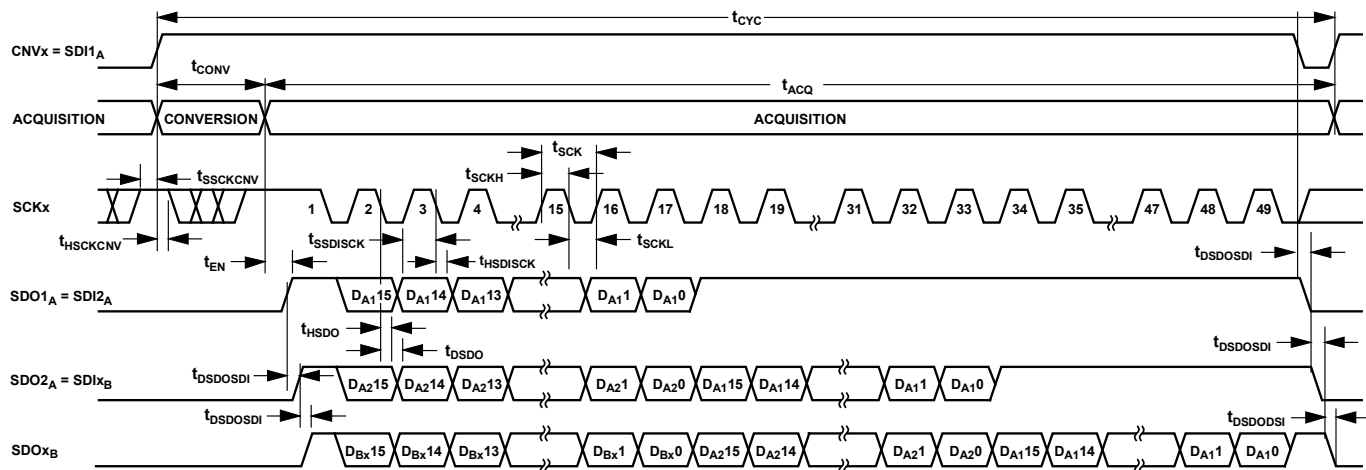

Figure 50. Chain Mode with Busy Indicator Serial Interface Timing
- In chain mode if SCKx is high during the CNVx rising edge (see Figure 50).
See Figure 49 for a connection diagram example using three AD7903 ADCs. The corresponding timing is shown in Figure 50.